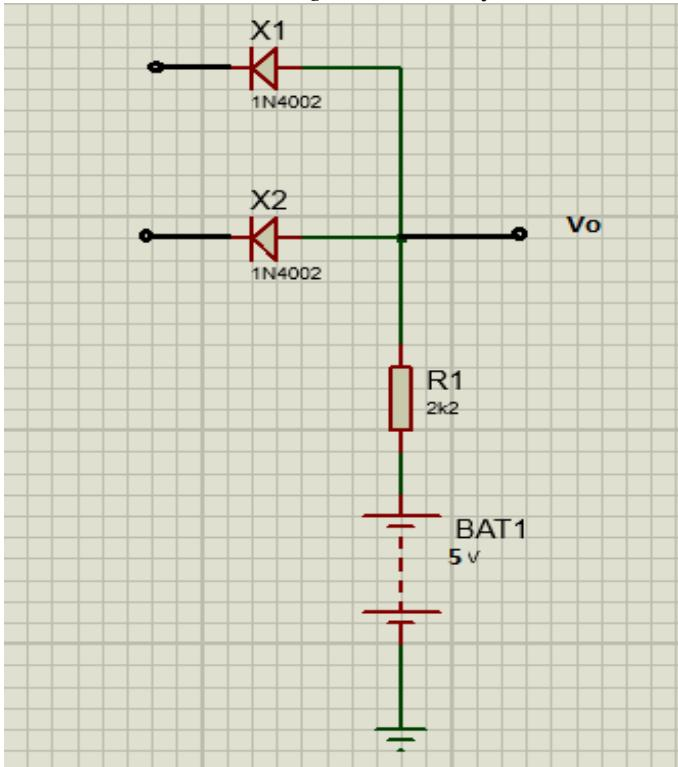

Figure 1.4 AND Gate
1. Construct the circuit of Fig. 1.4 and verify the truth table.